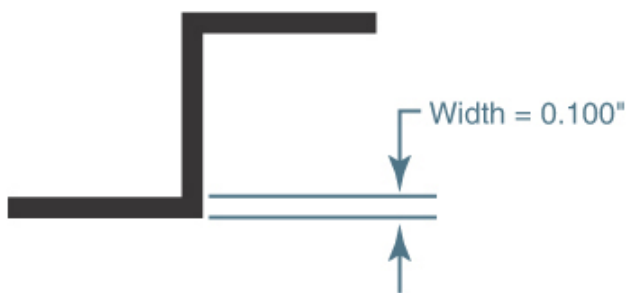

Figure 9-18
After you select the **Width** option, AutoCAD prompts you for a starting width and an ending width. This allows you to vary the width from point to point. To apply a width to all the line segments of a polyline, you simply specify an equal starting and ending width. For instance, to draw a polyline with a constant width of 0.1000, you type **.1<Enter>** when AutoCAD prompts you to *Specify starting width<0.0000>:*. AutoCAD then prompts you for the ending width of the polyline segment using the starting width as the default by prompting *Specify ending width<0.1000>:*. This allows you to simply press the **<Enter>** key to create a constant width. Figure 9-18 shows a polyline drawn with a constant width of 0.100".
- 2** Create a polyline with a uniform width of 0.100" similar to the polyline shown in Figure 9-18 using the **PLINE** command and the **Width** option.